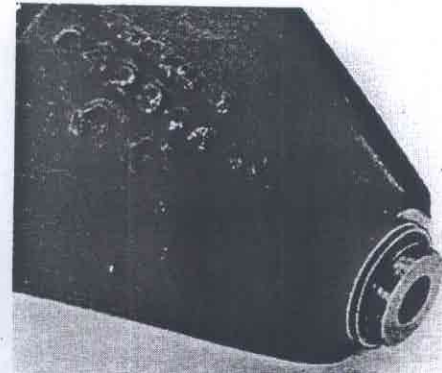
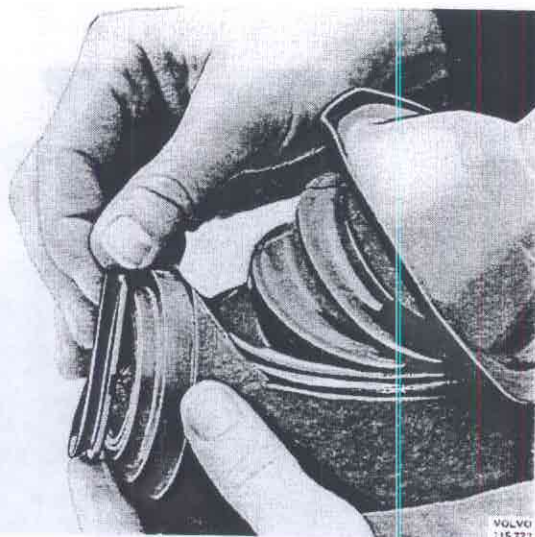

Fig. 46-105. Fitting the seal
Fig. 46-104. Fitting the seal
7. Replace the upper seal on the wheel carrier housing, Fig. 46-104, and the seal on the support Fig. 46-105. Fit the support on the wheel carrier housing.